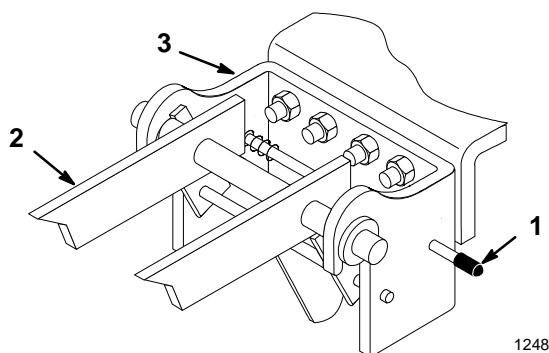

Figure 18
15. Open front hitch lock (Fig. 18) and remove snowthrower mounting frame from front hitch.